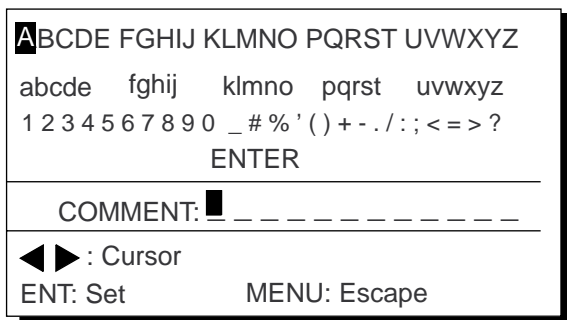

Figure 4-5 Screen for entry of comment for waypoint
8) Press the **NU/CU ENT** key. The display shown in Figure 4-5 appears.